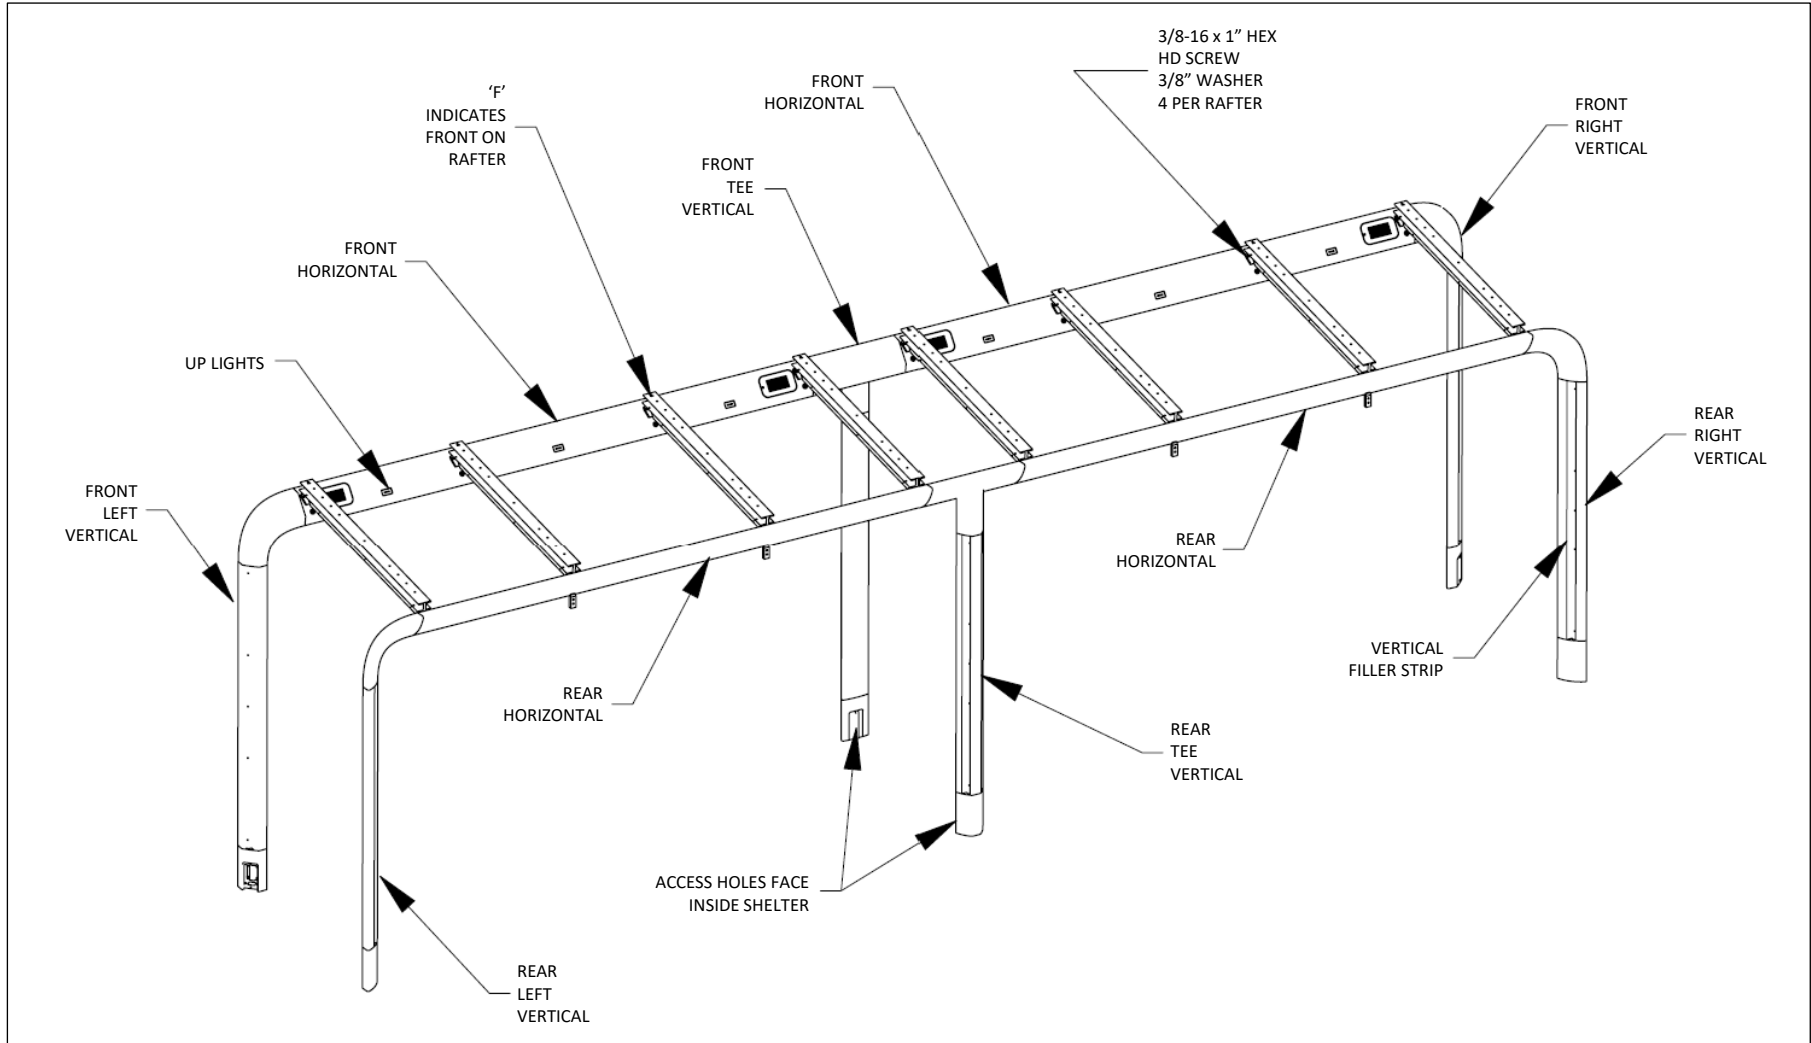

Fig. C3 – frame and rafter assembly
7. Repeat for remaining front and rear verticals and horizontal assembly. Access hole for cover plate should be facing toward the inside of the shelter, see Fig. C3.
8. Install rafters using 3/8" washers and hex head screws, see Fig. C3. Front of rafter is indicated on part, see Fig. C3. Hand tighten.
10. If shelter does not have any wall panels, the vertical filler strips should be installed. The front filler strips are taller than the rear strips. Install each one with (3) 1/4-20 x 1/2" socket head cap screws, see Fig. C3.